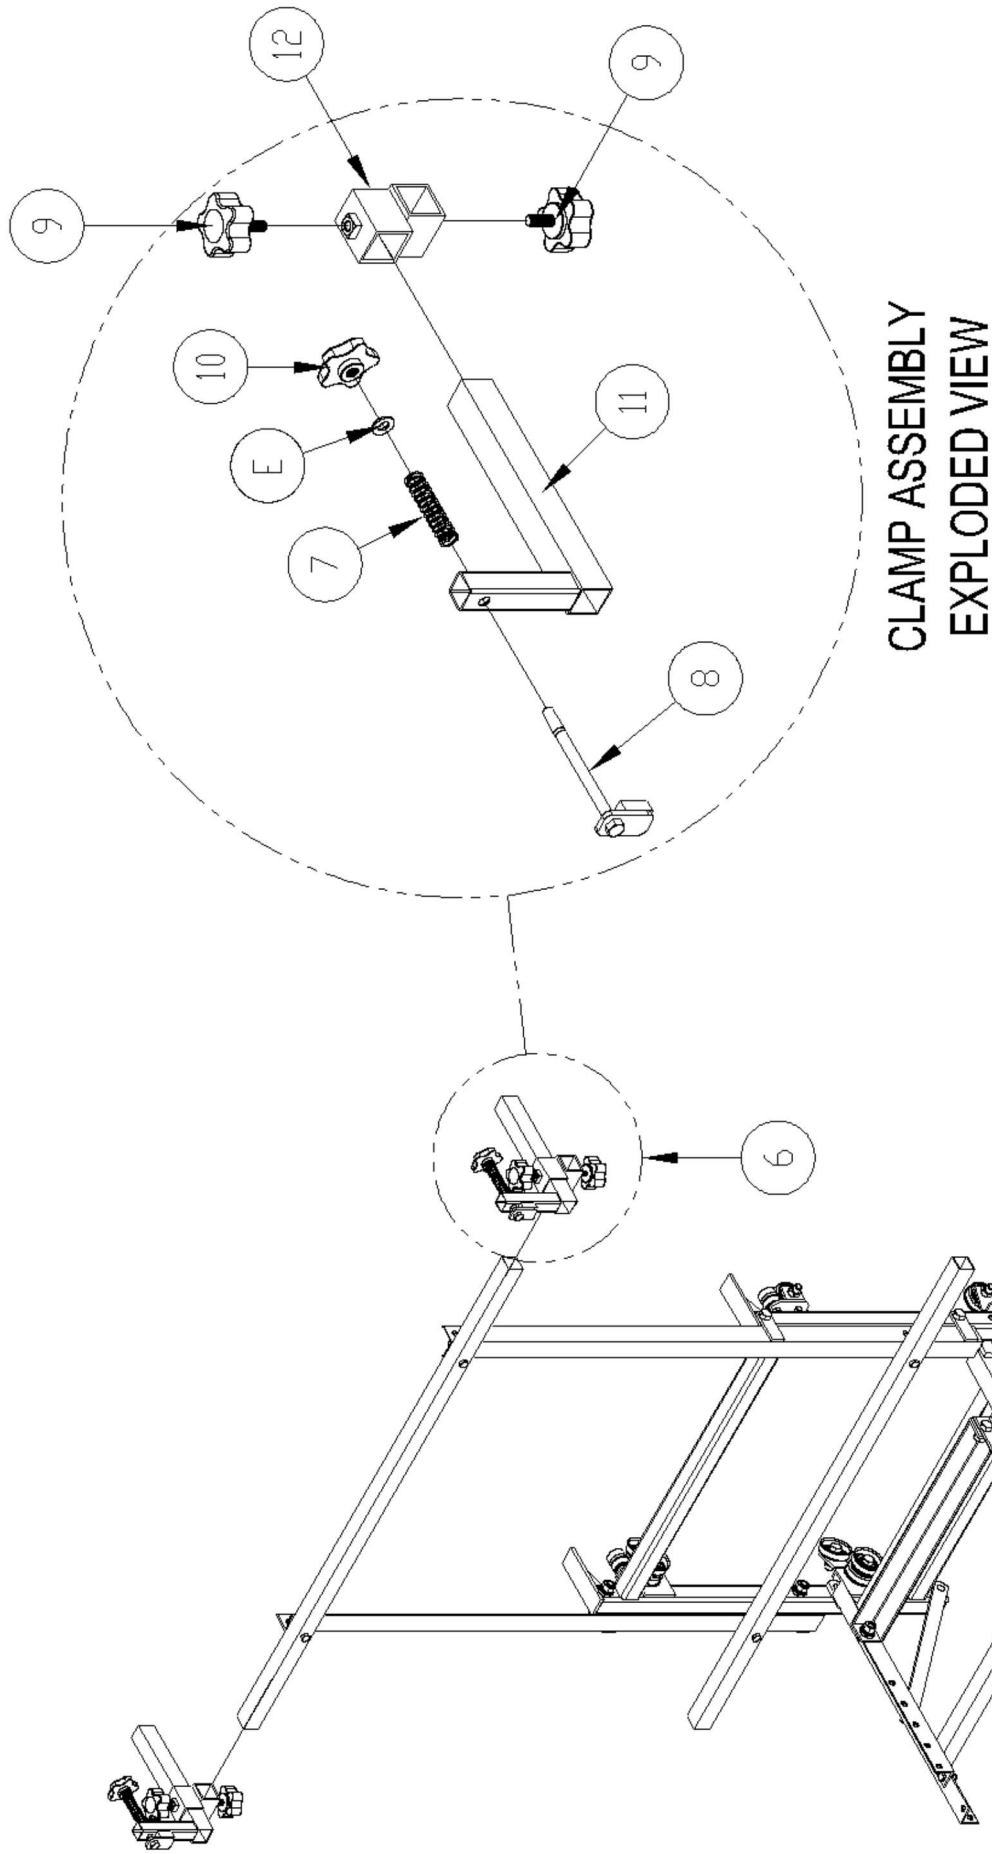

Figure 4
6. Install the upper clamp assembly (6) as shown in Figure 4. Use the knobs (13) on the upper clamp adjusting tube (12) to locate the clamp assembly onto the support tube. The bottom knob secures the clamp adjusting tube (12) to the desired location on the support tube, the top knob secures the spring adjustment tube (11). Adjust the clamp assembly accordingly to clamp on to the number of solar panels that will be carried on the carrier as shown in Figure 5.